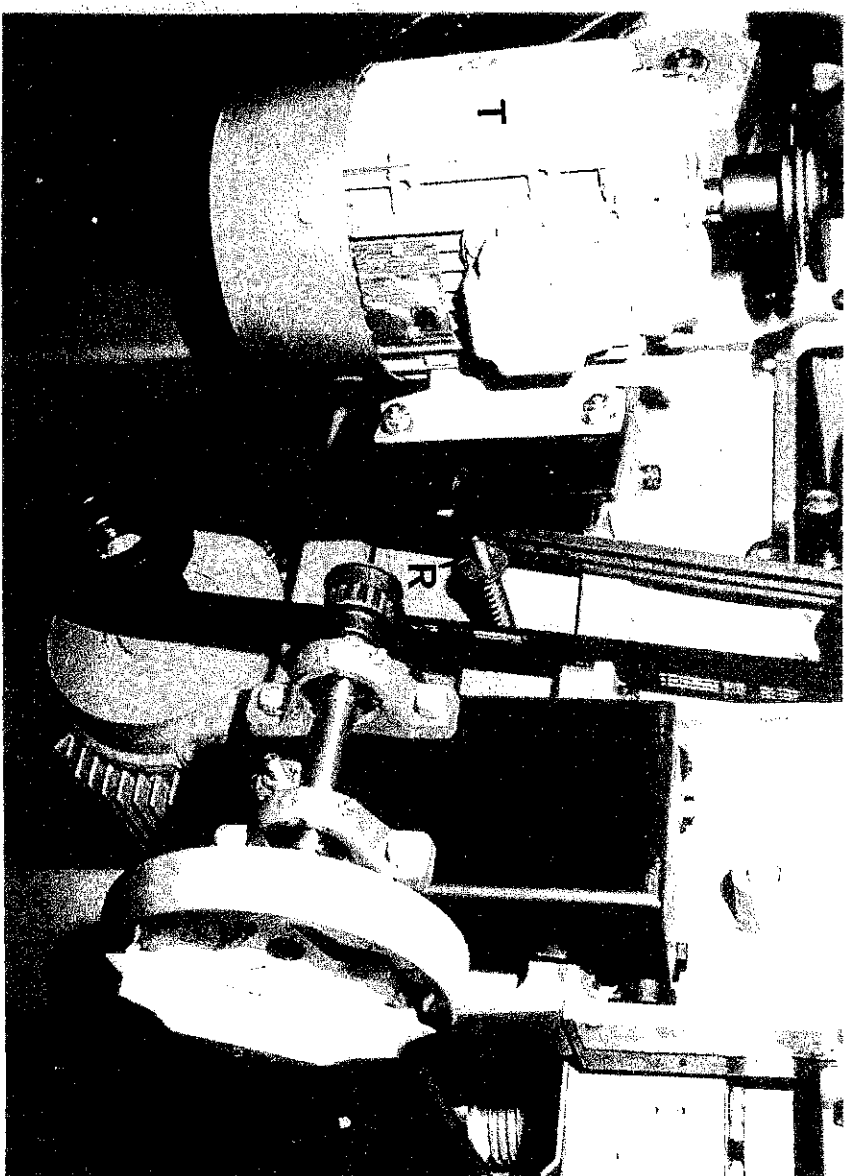

FIG. 28
- e) Pivot side head drive motor "T" FIG.28 until clear of stud "R".